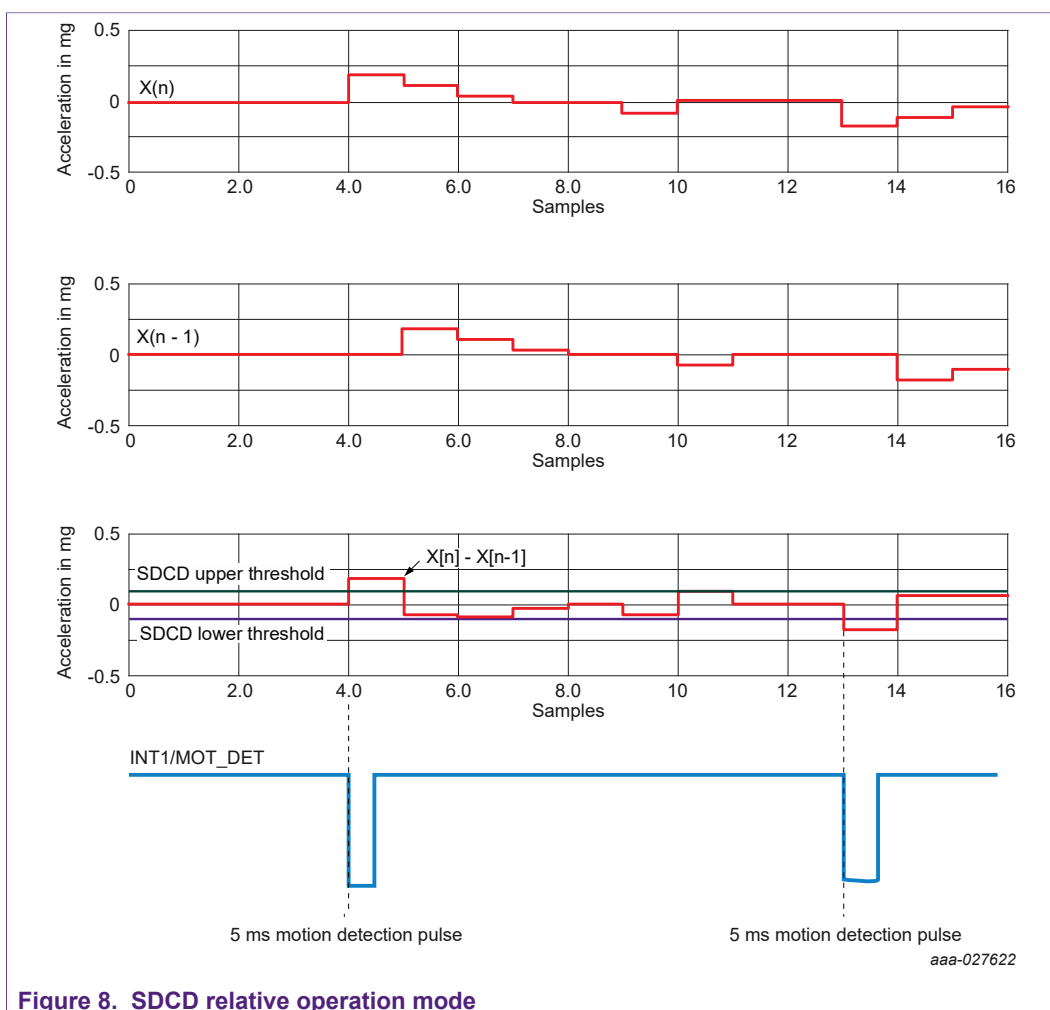

Figure 8. SDCD relative operation mode
- 0b10: The function updates the SDCD\_REF\_X/Y/Z values with the current decimated and trimmed X/Y/Z acceleration input data after the function evaluation. This allows for acceleration slope detection with  $\text{Data}(n)$  to  $\text{Data}(n-1)$  to be used as the input to the window comparator. Figure 8 shows the SDCD block usage in relative mode.